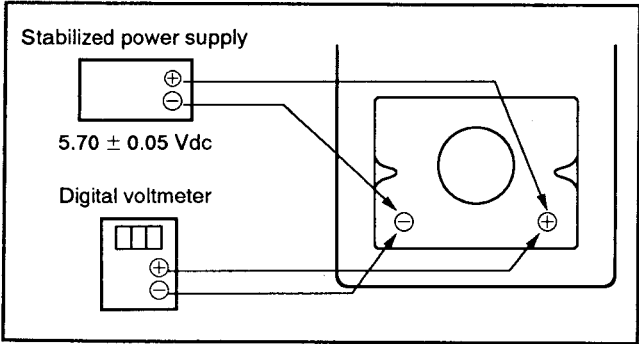

Fig. 6-3-4.
- 1) Connect the stabilized power supply and digital voltmeter to battery terminals as shown in the figure 6-3-4.